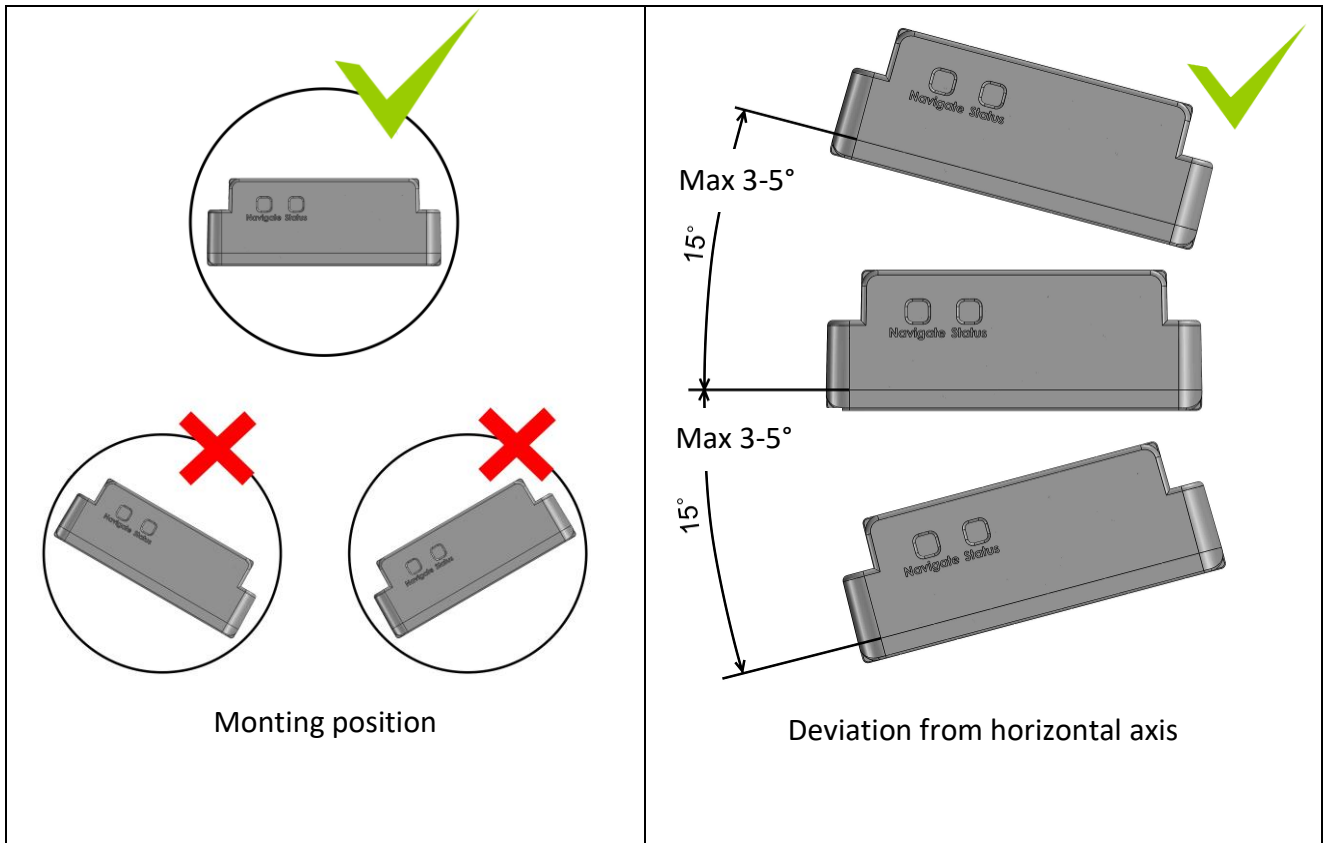

Figure 63. Mounting position and recommended deviation from horizontal axis of vehicle
2. Recommended deviation from horizontal axis of vehicle max 3-5°, as shown in figure 63.
1. If using Eco driving function device should be mounted horizontally to work properly, see Figure 63 and 64.